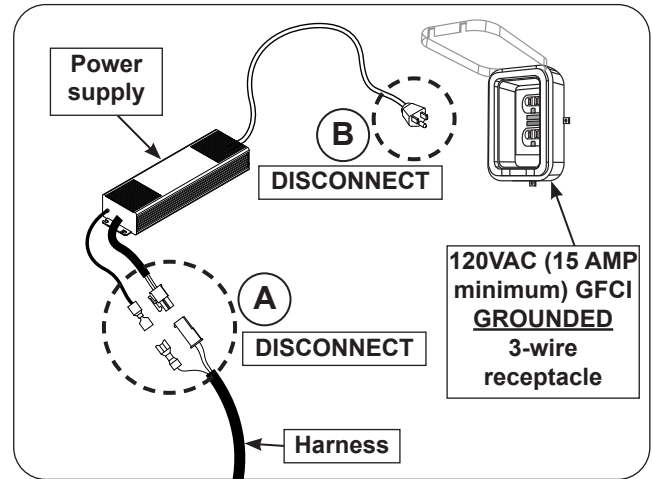

Fig. 49-1 Perform system reset
2. Disconnect the harness from the power supply (see Fig. 49-1, A).
3. Disconnect the power supply from the power source. (see Fig. 49-1, B).